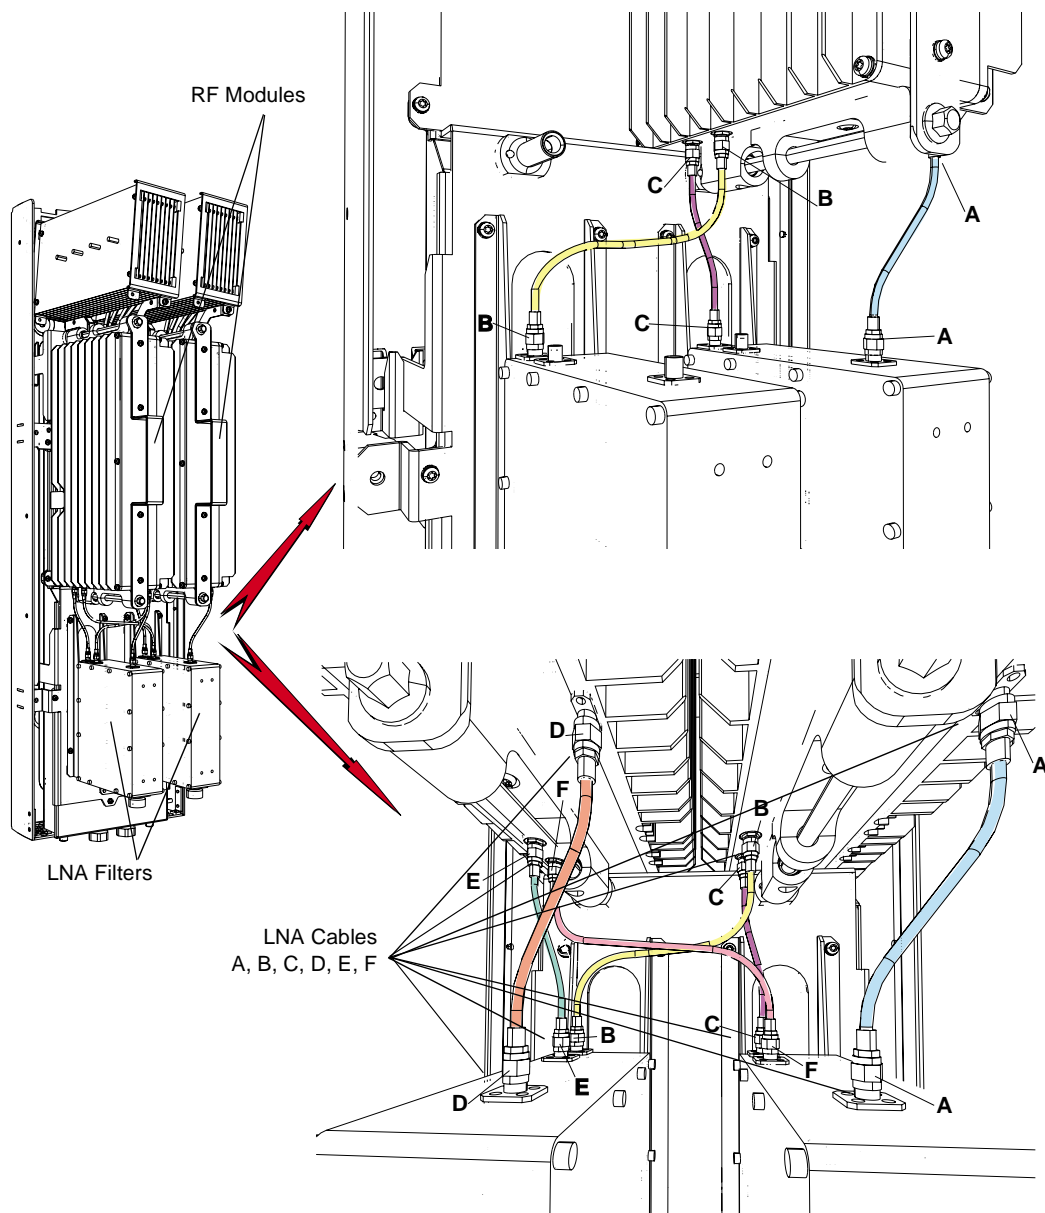

Figure 3-3 LNA Cable Connections
After you install the RF modules, you can connect the RF modules to the LNA filters using the short LNA cables. Figure 3-3 shows the RF module LNA cable connections for a one- and two-RF module installation.
1. For a two RF module installation, connect the LNA cables from the LNA filters to the RF modules as shown in Figure 3-3 on page 3-5.
2. For a single RF module installation, connect the LNA cables from the LNA filters to the RF module, as shown in Figure 3-3 on page 3-5, and cap connections D, E, and F.